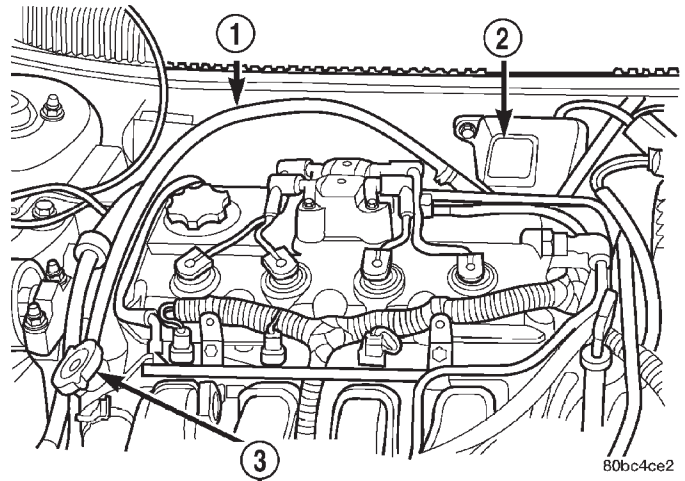

Fig. 29 Recovery Container Hose
- (1) Disconnect recovery hose from water outlet connector/thermostat housing (Fig. 29).
(2) Connect recovery hose to water outlet connector/thermostat housing (Fig. 29).
(3) Fill container to proper level. Refer to Cooling System Refilling in this section.